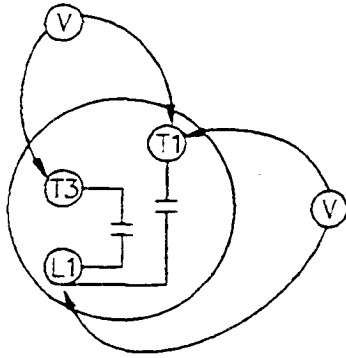

Figure 5-15. Mechanical Dial Timer
7. Set the timer dial to 0. Refer to Figure 5-15. Check for 120 VAC across timer terminals L1-T1, and 0 VAC across timer terminals L1-T3-
8. Set the timer dial to 10 minutes. Refer to Figure 5-15. Check for 0 VAC across timer terminals L1-T1, and 120 VAC across timer terminals L1-T3.